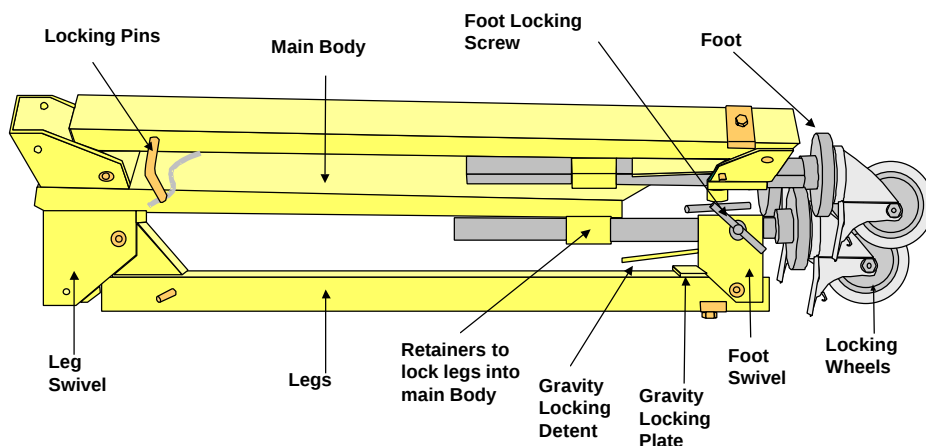

Figure 3 Folded Mast Base
5. Turn foot locking screws anti-clockwise to release feet. Pull feet clear of the retainers to release the legs. See Figure 3.